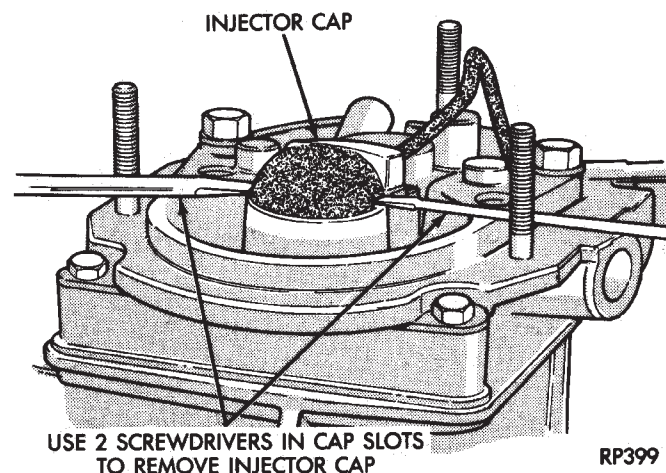

Fig. 7 Removing Injector Cap
- (1) Remove air cleaner assembly.
- (2) Perform Fuel System Pressure Release procedure.
- (3) Disconnect negative cable from battery.
- (4) Remove injector cap holddown screw (Torx-head).
- (5) With two small screwdrivers, lift the top off the injector using the slots provided (Fig. 7).